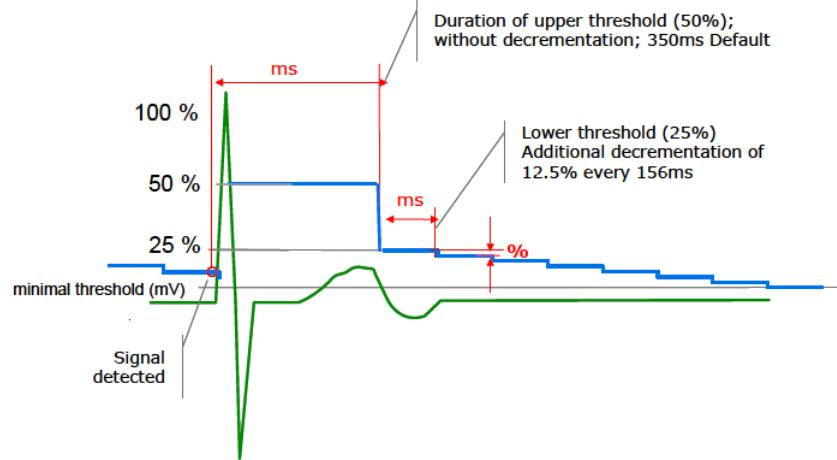

Figure 79: Automatic Sensitivity Control [ASC] in the LV channel
The Acticor ProMRI® ICD has two sensitivity settings in the left ventricle: Standard and OFF (Figure 79). In the Standard ventricular setting, each R-wave is measured and used to reset the upper and lower thresholds. The Upper threshold (UT) duration after sensing is set to 50% of the peak R-wave amplitude. Following the Upper threshold duration after sensing, the device drops to a 25% value for the lower threshold duration. The device will continue to decrement 12.5% of the measured R-wave value every 156 ms or until the minimum threshold is reached or until a new R-wave occurs.